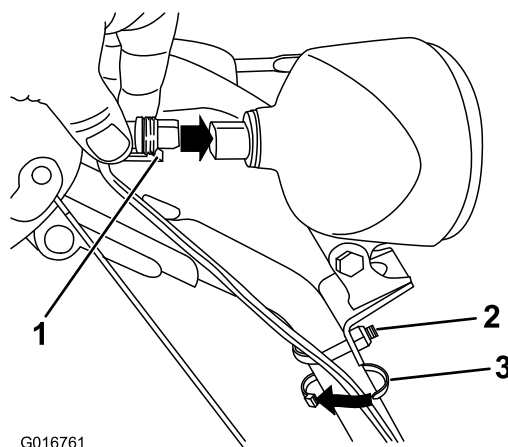

Figure 17
1. Insert the wire connector on the loose end of the wire straight into the back of the headlight until it is securely in place (Figure 17).
Note: Ensure that the plastic clip on the wire connector is on the bottom (Figure 17).
2. Secure a cable tie (from the loose parts bag) around the wire and the handle about an inch (2.5 cm) below the U-bolt (Figure 17).